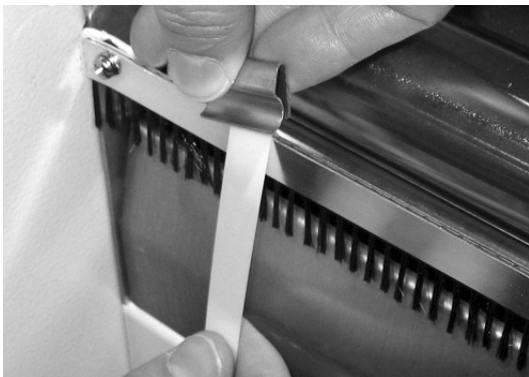

Figure 9
3. With strap in place, press clip down over strap. (figure 9)